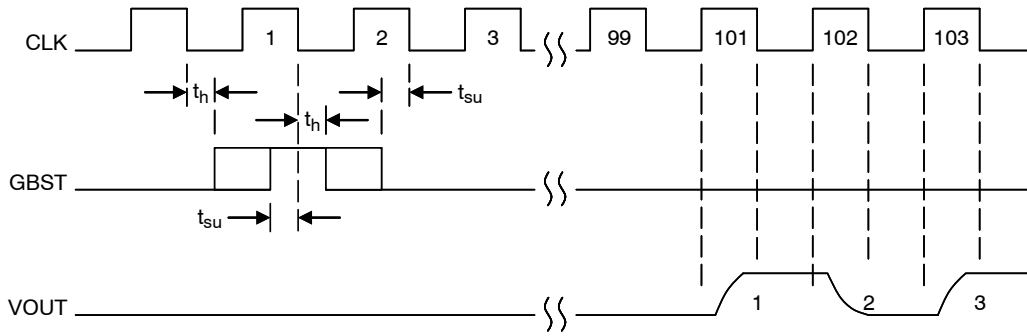
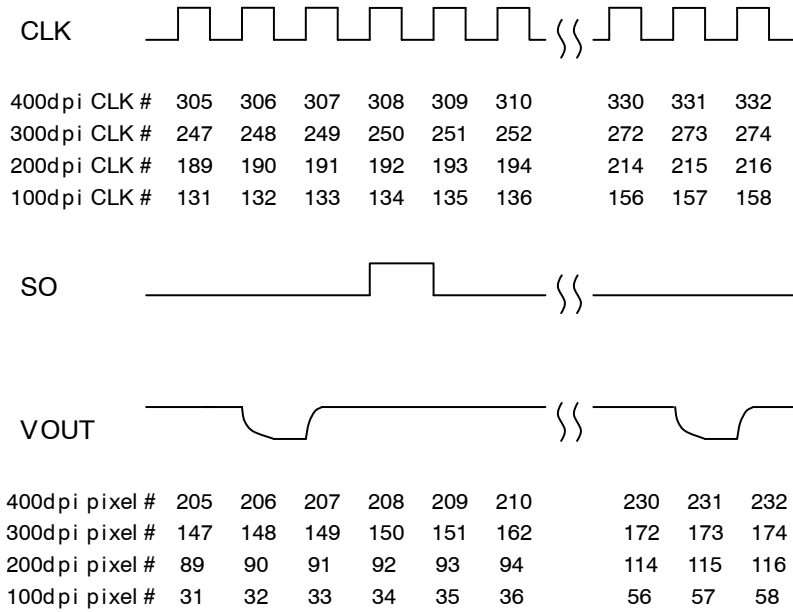

**Figure 4. Overall Timing Diagram for 400/300/200/100dpi Modes**
**Figure 5. Rise and Fall Times for 400/300/200/100dpi Modes**
4. Refer to Figure 4 through Figure 6 for more information on AC characteristics
7. The shift register loads on the falling edge of CLK, therefore setup and hold times ( $t_{su}$ ,  $t_h$ ) are needed to prevent loading of multiple start pulses. This would occur if GBST remains high during two fallings edges of the CLK signal. See Figure 4.
Figure 4 shows the initialization of the sensor for the 400 dpi, 300 dpi, 200 dpi and 100 dpi modes. The sensor will operate with 100 inactive pixels being clocked out before its first active pixel is clocked out.
Figure 4 and Figure 5 detail the timing of the CLK, GBST, OUT, and SI/SO signals in further detail, they have the same timing requirements for the 400, 300, 200 and 100 dpi modes. The rise and fall times are listed in Table 5. In Figure 6, note that clock 100 is the first active pixel, as the first 100 clocks produce dummy pixels (the output of the first 100 clocks should not be used for any purpose such as black level clamping).